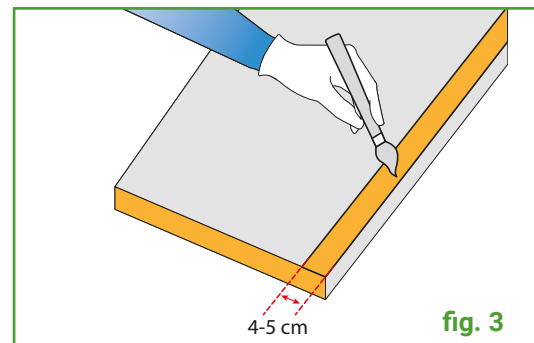

fig. 3
- on a portion about 4-5 cm wide adjacent to the edge of the sheet, from the side that will be in contact with the duct, and on the same surface of the duct. (**fig. 3**)